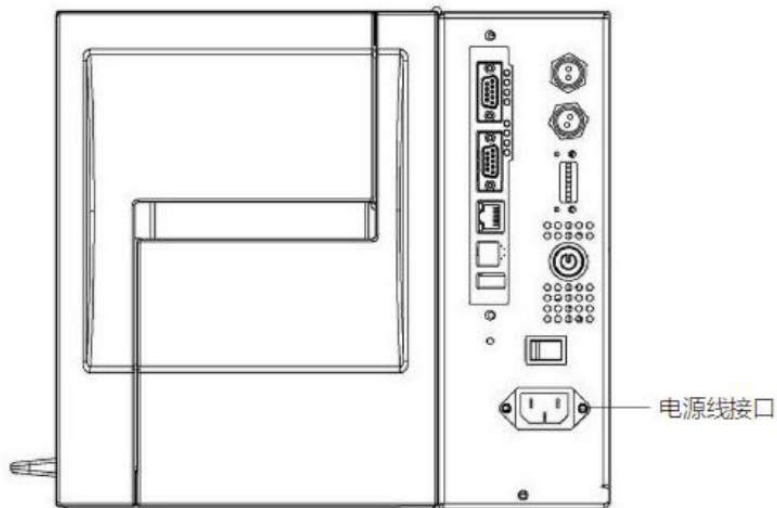

图4
- 2.如图 4,把电源适配器插头插入打印机后部的电源插座内,如下图
- As shown in Fig. 4, insert the power adapter plug into the power socket on the rear of the printer, as shown below.